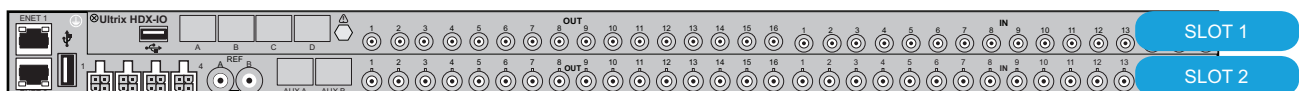

Figure 11 Slot Numbering — ULTRIX-FR1 and ULTRIX-NS-FR1
**Figure 11** outlines the numbering scheme for the ULTRIX-FR1 and ULTRIX-NS-FR1 chassis. Note that **Slot 1** is the topmost slot.